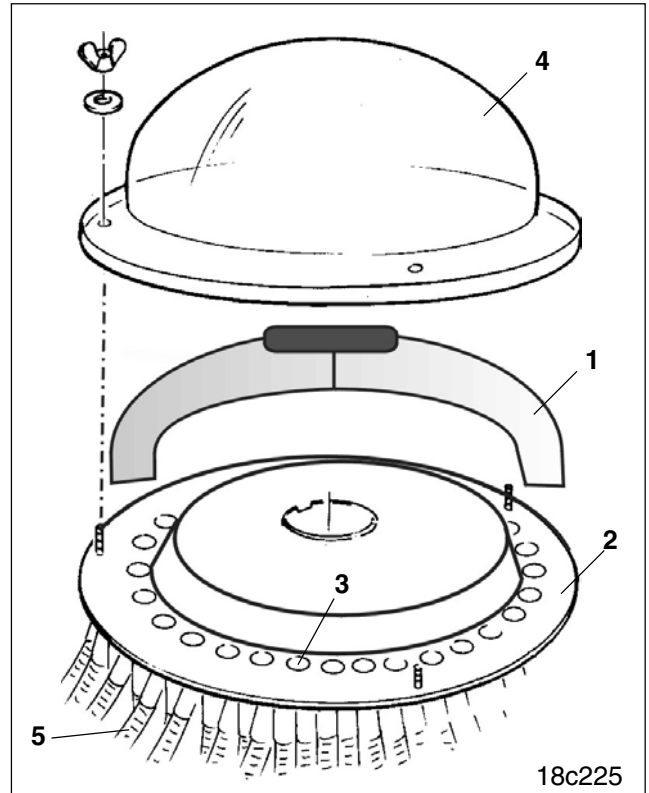
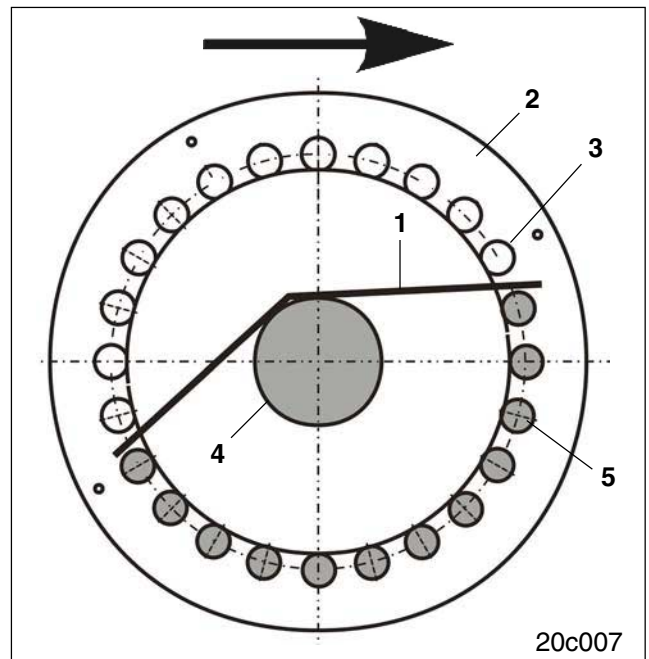

Fig. 26.10
Fig. 26.11
With the insert (Fig. 26.10/1) for the half-side shutting off of the outlets in the distributor head the seed flow is guided to half of the outlets (Fig. 26.10/3) and thus to half of the coulters. This way, at random, the seed delivery to the coulters can be interrupted on the right or left hand implement side and you can sow with the other implement half.
- Remove distributor hood (Fig. 26.10/4).
- set the insert (Fig. 26.10/1 or Fig. 26.11/1) on to the distributor plate (Fig. 26.10/2 or Fig. 26.11/2) that the desired outlets will be shut off by the insert.
- In top view (see Fig. 26.11)
- shut off, not hatched outlets (Fig. 26.11/3) are on the side behind the corrugated tube (Fig. 26.11/4)
- open, hatched outlets (Fig. 26.11/5) are on the side in front of the corrugated tube (Fig. 26.11/4).
- In any case check the routing of the seed guide tubes (Fig. 26.10/5) to ensure that the insert shuts off the seed flow to the correct coulters.
- Mark the position of the insert with a suited pencil on the distributor plate (Fig. 26.11/2) so that you may quickly find the correct position of the insert on the distributor plate lateron.
- Fix the distributor hood (Fig. 26.10/4) on the distributor head. When fixing the distributor hood the insert (Fig. 26.10/1) is clamped.